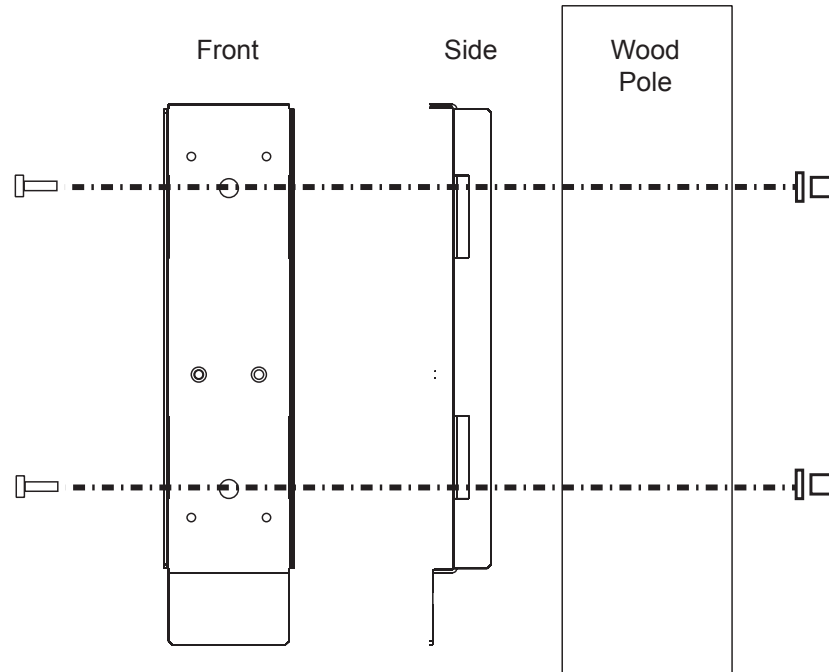

Figure 13 — Mounting to a wooden pole
2. Secure the mounting bracket to the pole with the machine bolts as shown in Figure 13.